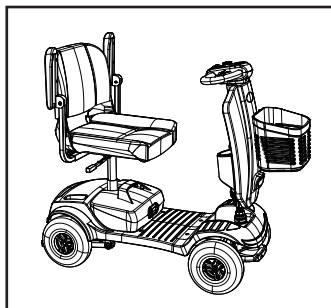

Figure 8
1. Lift armrests up for easier access to the seat lever (see figure 8).